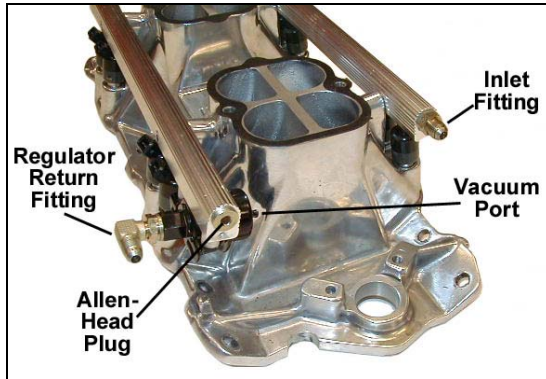

Figure 1
2. Install the fuel pressure regulator to the driver's side (long) fuel rail. Put a light amount of Vaseline or petroleum motor oil on the regulator o-ring before installing it in the fuel rail. Use the 2 aluminum spacers and 2 flat-head Allen screws (provided) to install the regulator. The regulator will be at the end of the rail on the driver's side. The regulator outlet will face the outside of the engine. Tighten the screws securely. See Fig. 1.
4. Install the (4) ¼-20 x 1 Allen-head screws to fasten the rails to the lower intake manifold. Tighten them securely.